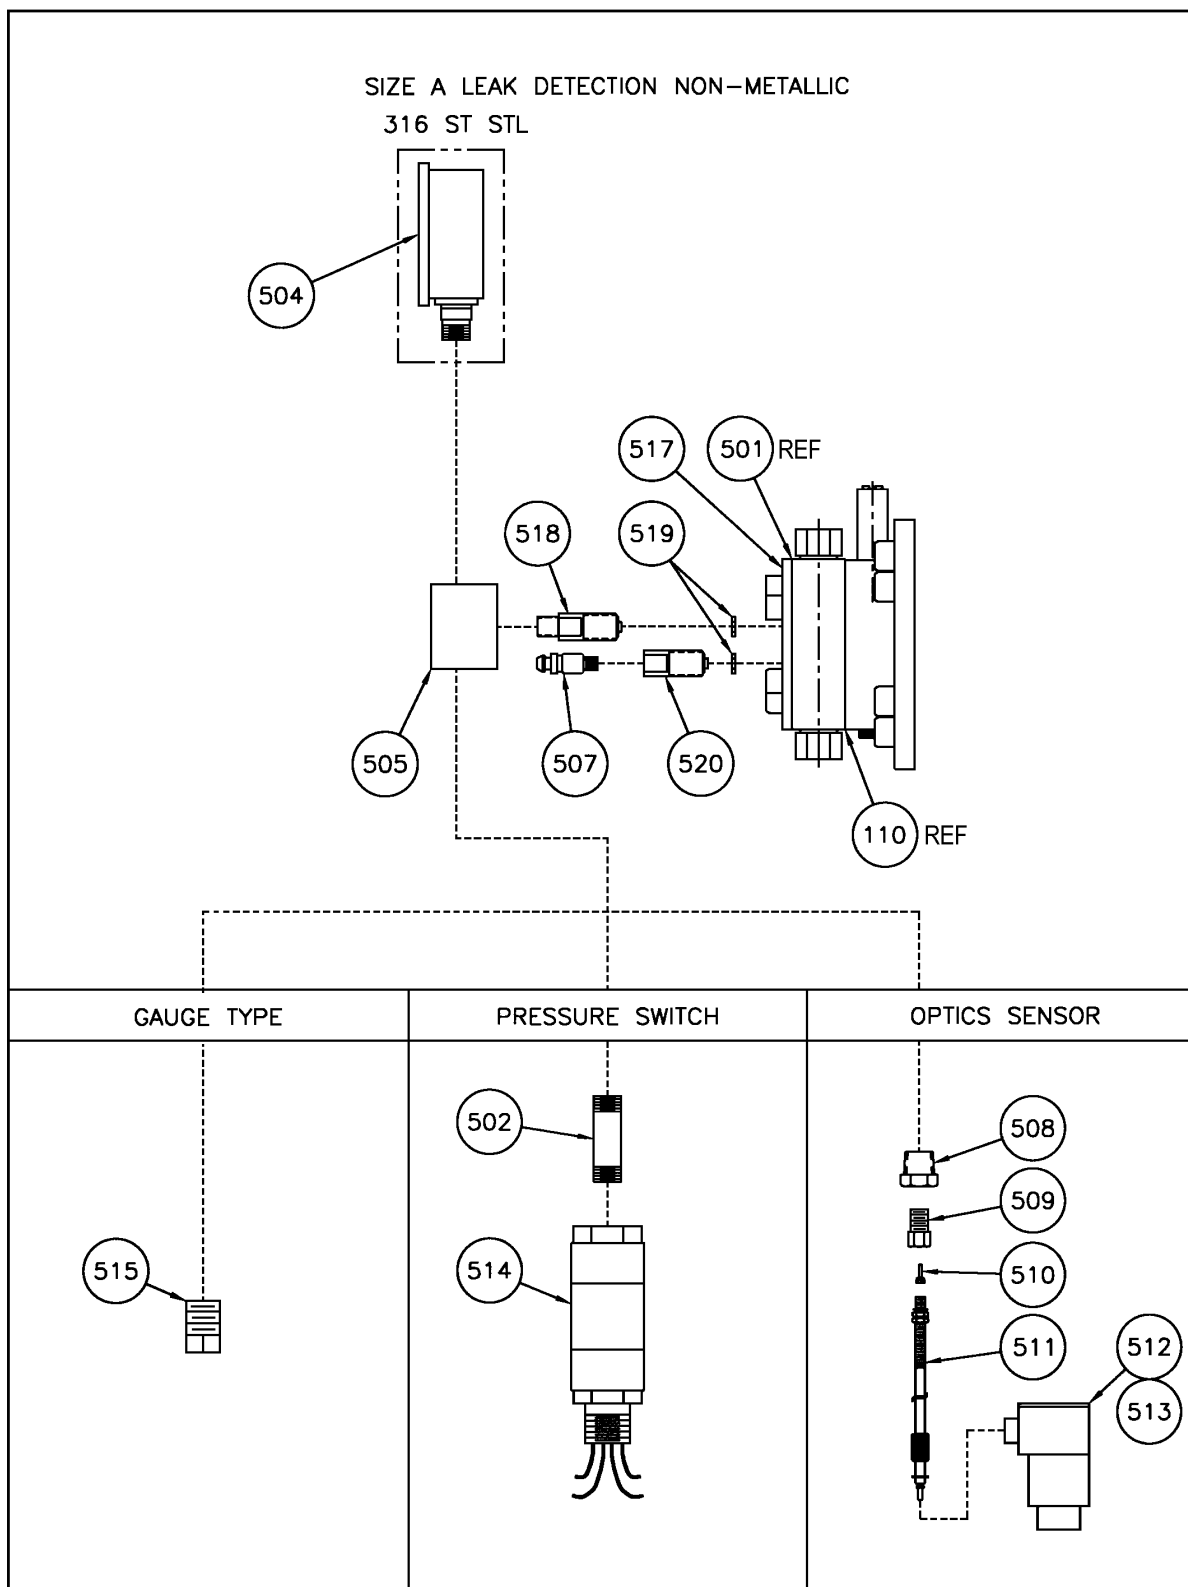

Figure 42. Non-Metallic Leak Detection, Size A.
6.7 NON-METALLIC LEAK DETECTION, SIZE A (PVC & KYNAR)(FIGURE 42)